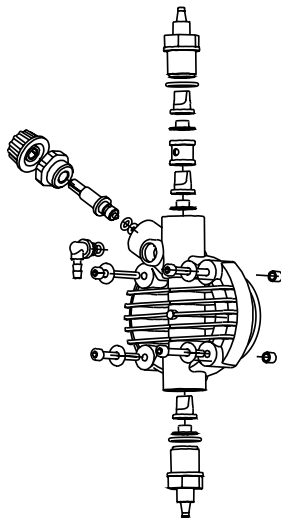

Fig. 10
- the additive concentration in the pipework; a reduction of this concentration could be caused by the wearing of the valves, in which case they need to be replaced (Fig. 10) or by the clogging of the filter which then has to be cleaned as in point 3 here below.
This operation can also be done with the pump disconnected from the plant by turning the pump upside-down for 15 to 30 seconds and without connecting the hose to the nipples; if impossible, dismount and remount the pump head (Fig. 10) using the four mounting screws.
As the system is quite robust there are no apparent mechanical problems. Occasionally there might be a loss of liquid from the nipple because the tube nut has loosened, or more simply the discharge tubing has broken. Very rarely there may be losses caused by the breakage of the membrane, or by the membrane seals in which case they have to be replaced by disassembling the four screws of the pump head (fig. 10), when re-mounting the pump head ensure that the screws are replaced properly, along with "O" ring. After repair, the metering pump will need to be cleaned of additive residues which can damage the pump casing.
❶ THE METERING PUMP GIVES PULSES BUT THE ADDITIVE IS NOT INJECTED
- a. Dismount the suction and discharge valves, clean them and replace, see position (fig. 10). Should the valves be swollen, check valves material against our chemical resistance compatibility chart and fit correct valves. Standard valves are Viton. Upon request ball check valve, can be supplied.